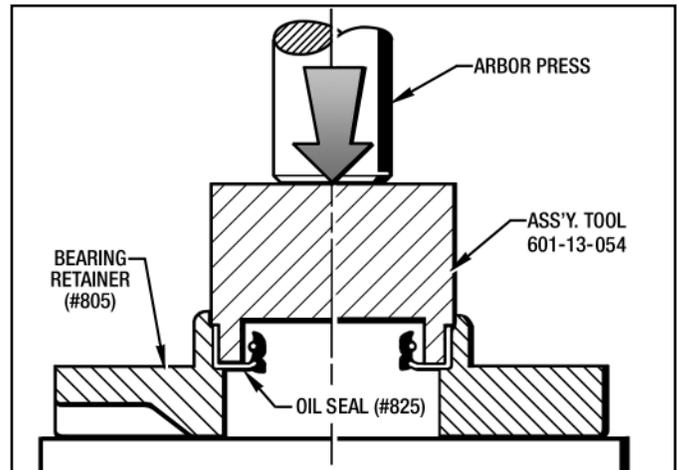

Figure 9.2 - Installing Oil Seal (#825)
4. Install Oil Seal (#825) into the Bearing Retainer (#803) with an Arbor Press and Assembly Tool #601-13-054 as shown in *Figure 9.2*. Clean off any excess Permatex.